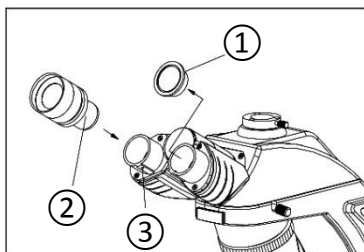

Fig. 3
Insert the eyepiece ② into the eyepiece tube ③ until it touches the surface of the eyepiece tube. Repeat above for the other eyepiece (see Fig. 3).